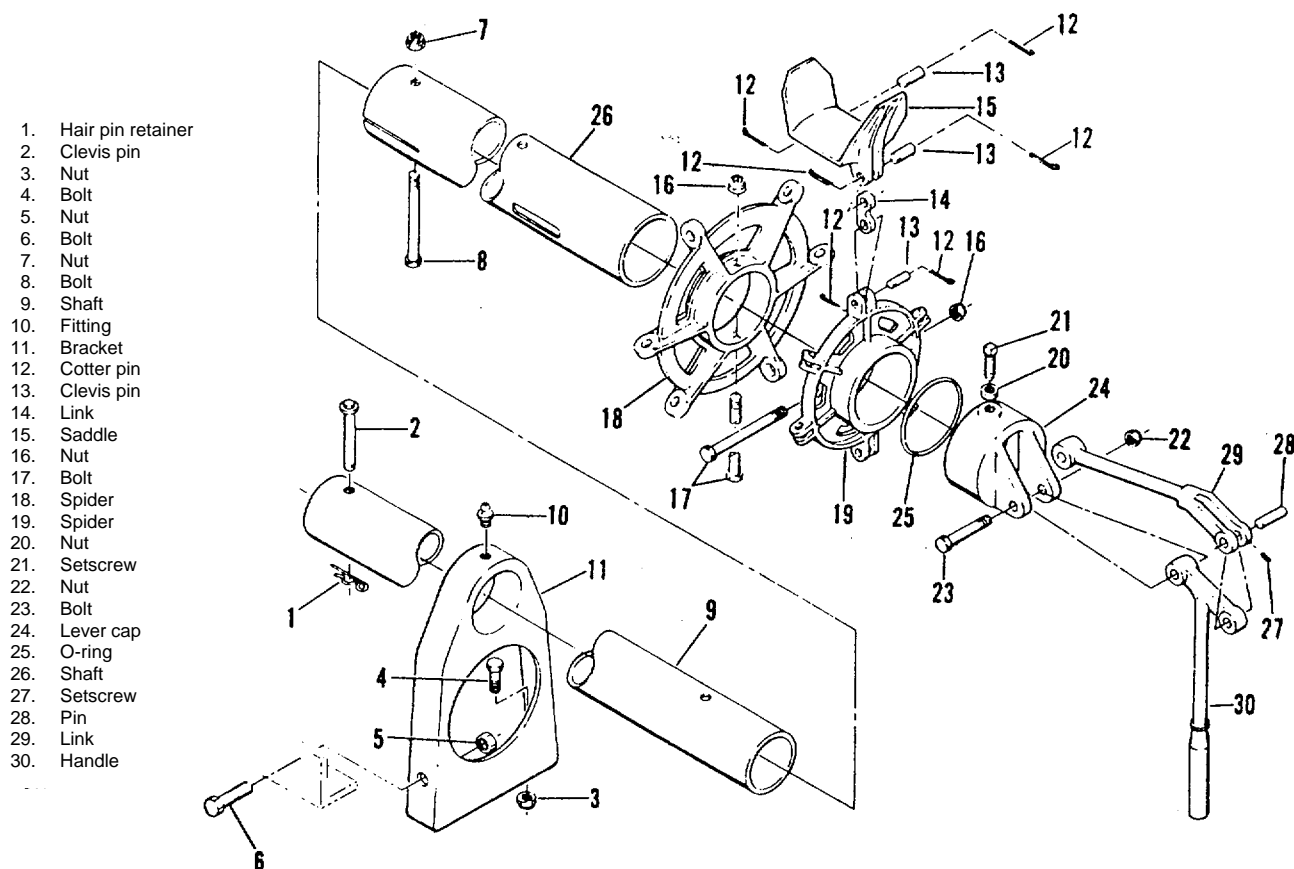

FIGURE 4-5. COLLAPSIBLE WIRE REEL
- A. Removal and Disassembly. Remove and disassemble the collapsible wire reel by following the sequence of index number (1 through 30) assigned to Figure 4-5.